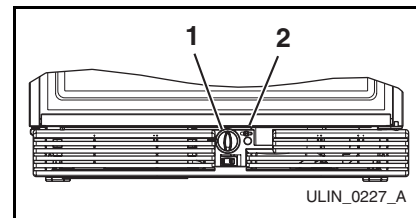

Figure 11
2. Remove control knob by pulling it straight out, away from grille (**Figure 11, 1**).
3. Loosen and remove screw (**Figure 11, 2**).
7. Insert the screw (**Figure 11, 2**). Do not overtighten.
8. Reinstall the control knob (**Figure 11, 1**).